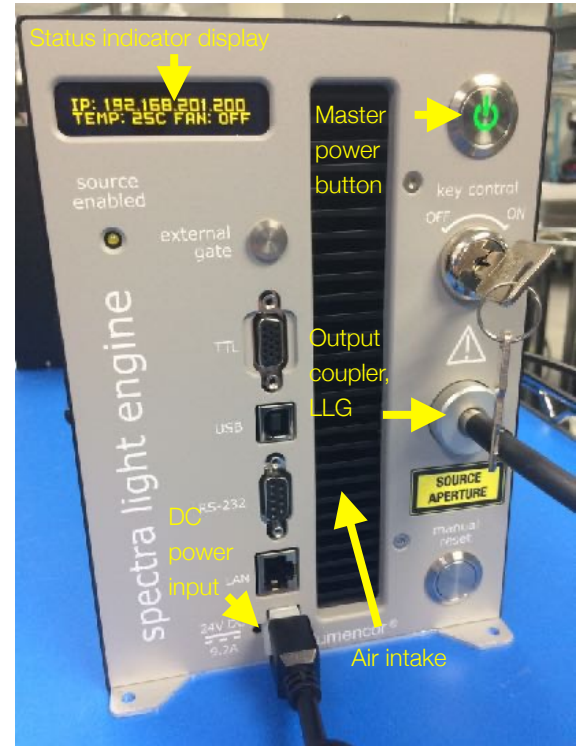
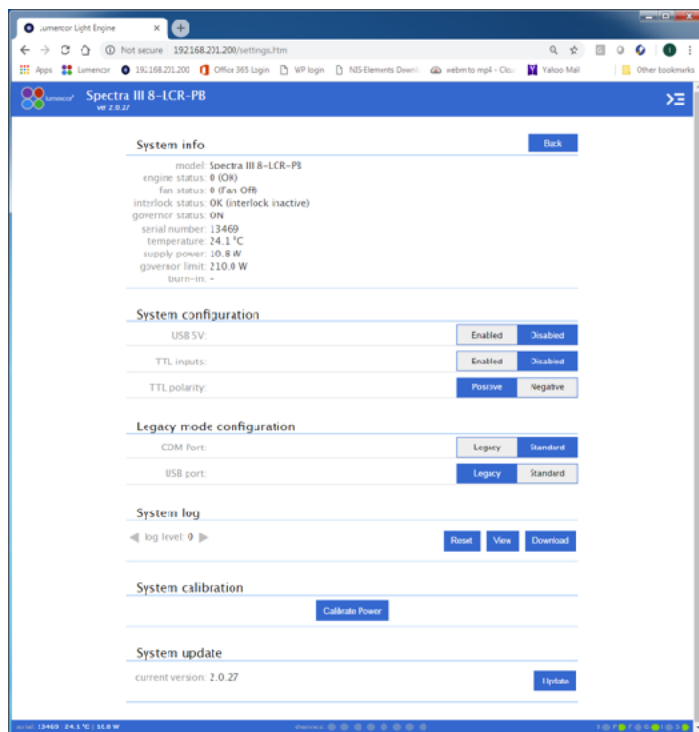

Figure 3. SPECTRA Light Engine front panel
Figure 6. SPECTRA GUI, Settings Tab. The GUI is accessed by typing the Light Engine IP address (198.168.201.200 in this example) into a web browser.
When setting the SPECTRA Light Engine up for use, place the unit on a hard surface and avoid blocking or restricting airflow at the air inlets (front panel; Figure 3) or exhaust ports (rear panel) on the enclosure. Restricting the airflow will cause the unit to operate at elevated temperatures and will result in decreased product life and/or premature failure.
The SPECTRA Light Engine must be operated in a non-condensing environment (dew point <10°C with controlled ambient temperature <30° C). Thermal overload protection is provided by the onboard microprocessor in conjunction with an onboard temperature sensor. If the internal temperature registered by the sensor exceeds 50°C **or** the fan rotor is stopped, all light output channels automatically turn OFF and are locked in this state until the internal temperature is below 50°C and/or the fan restarts. The current reading of the onboard temperature sensor is displayed on the front panel status display (Figure 3) and in the GUI (Section 3.3.3).
The SPECTRA Light Engine may be configured for light delivery via a 3 mm liquid light guide or an SMA-terminated optical fiber. The output couplers are built into the Light Engine front panel and are not field-exchangeable (Figure 3). The 3 mm liquid light guide output coupler incorporates an electrical power interlock switch in the back of the receptacle. The liquid light guide must be fully inserted in the receptacle to activate the interlock. Electrical power supply to the Light Engine cannot be turned on via front panel power switch until the interlock is activated. After fully inserting the liquid light guide, lock it in position using the set screw on the side of the receptacle to prevent inadvertent disconnection of the light guide during use.
Connect the DC power supply to a grounded AC wall outlet using the power cord supplied with the Light Engine. Connect the DC output to the 6-pin receptacle on the front of the Light Engine (Figure 3). Turn the Light Engine on using the master power switch. The embedded green indicator will illuminate (if applicable, ensure that the liquid light guide is inserted and secured; see below).
The **Master Power Switch** button on the front panel (Figure 3) turns the electrical power to the unit on or off. A green power indicator embedded in the button is lit when the power supply is connected to the Light Engine and the power button is in the on position. Initialization of the onboard computer takes about 30 seconds after the master power switch is turned on. When initialization is complete, the status indicator display (Figure 3) will activate.
The **Key Control** (Figure 3) must be in the on position before light output can be turned on. The key must be removed and stored in a secure location when the product is not in use. **ONLY** trained individuals should use and have access to the key. The **Master Power Switch** button, **Key control** and **Remote interlock** (Figures 3,4) can be used to shut off light output.
The **Source Enabled** indicator LED (below the status indicator display, Figure 3) provides a warning indication that one or more light sources are active and emitting invisible and/or visible radiation.
2. Insert the external gate jumper (Figure 2) in the labeled socket on the front panel (Figure 3). Insert the interlock jumper in the labeled socket in the lower left corner of the rear panel² (Figure 4).
9. Type the Light Engine IP address (Figure 3) into any web browser address bar to access the resident Web GUI. The factory default IP address is 192.168.201.200
SPECTRA Light Engines have two serial ports, labeled USB and RS-232 (Figure 3), which can be set to receive either LEGACY or STANDARD mode commands. Connection to the computer requires a USB-A-to-USB B cable (29-10058) or USB-to-RS-232 cable (29-10011). LEGACY commands are limited to controlling on/off switching and intensity adjustment of individual color channels. Only one of the two ports can be set to LEGACY mode at one time. The STANDARD mode command set gives access to an extensive panel of operating status reports and configuration settings in addition to the the basic control functions of the LEGACY command set. A complete listing of STANDARD mode commands is provided in *Lumencor Light Engine Command Reference* (Document number 57-10018). Note that LEGACY and STANDARD mode communications use different serial protocols (9600,8,N,1 and 115200,8,N,1 respectively). Changes to the command mode setting for a serial port can be made via the **Settings** screen of Web GUI (Figure 6). Changes are applied instantaneously and are retained between power cycles.
The TTL Interface provides users with a faster method of switching color channel outputs on and off. The TTL interface does not control source output intensity, which remains under serial (RS-232/USB/TCP) control. Note that TTL and serial on/off commands have a logical OR relationship. Therefore source on/off controls on the Light Engine control pod, in the Web GUI or in third-party image acquisition control software must be set in the "OFF" state when using TTL control. Individual TTL inputs are provided for each color channel, as shown in the adjacent table. As a safeguard against unintended light output when the inputs are initially connected, the Light Engine TTL port is disabled and must be enabled by a serial command. To enable the TTL input, click the **Enabled** button next to "TTL inputs" in the GUI under the **Settings** tab (Figure 6) or send the standard mode command SET TTLENABLE to the LAN port. Input TTL signals can be conveniently addressed using an accessory BNC breakout cable (Lumencor part no. 29-10156 or 29-10216; Figure 7) connected to the front panel TTL port. The breakout cable also provides a global shutter input (labeled "shutter"). TTL signals input to the global shutter will synchronously toggle all currently enabled source channels on and off.
SPECTRA Light Engine may incorporate different types of solid state light sources. Constituent light sources may include LEDs or luminescent light pipes. The light sources installed and the bandpass filters associated with each are shown on the Certificate of Conformance included with the shipping documents e-mailed by Lumencor to the customer. The certificate of conformance also shows full (100%) power outputs for each source measured at the terminus of the liquid light guide (LLG) or optical fiber (Figure 1). Not all sources may be turned on simultaneously. To prevent exceeding the capacity of the DC power supply, power consumption is tracked by the onboard microprocessor. If a set limit (see **Governor**, Figure 6) is exceeded, either by increasing intensity settings for sources that are already on, or by turning on additional sources, all light output is terminated and an error message will be displayed on the control screen. To clear the error condition, click on the **System** tab in the GUI and then click the **Restart** button under **Governor**.
No response to serial (USB or RS-232) commands	Check that the LEGACY or STANDARD command mode selection (GUI Settings; Figure 6) is compatible with the software driver.
No response to TTL trigger commands	Check that TTL inputs are ENABLED (GUI Settings; Figure 6) and that the TTL polarity setting is consistent with the trigger inputs. Also check that all serial ON/OFF controls are in the OFF state.